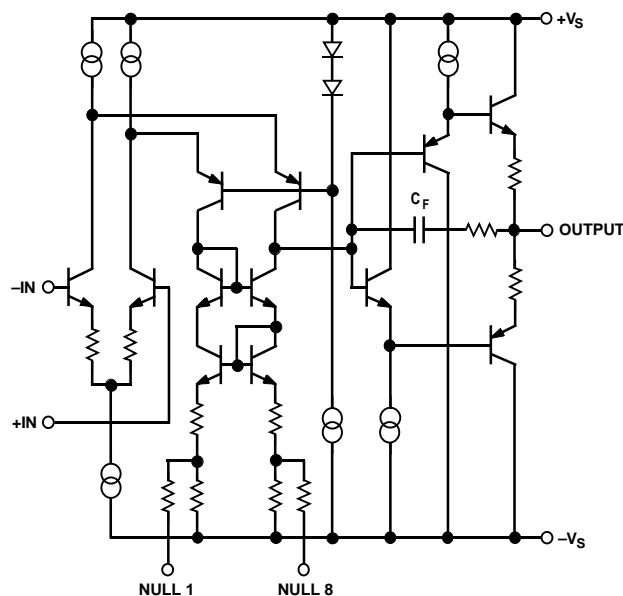

Figure 22. AD847 Simplified Schematic
The AD847 is fabricated on Analog Devices' proprietary complementary bipolar (CB) process which enables the construction of pnp and npn transistors with similar f_T s in the 600 MHz to 800 MHz region. The AD847 circuit (Figure 22) includes an npn input stage followed by fast pnpns in the folded cascode intermediate gain stage. The CB pnpns are also used in the current amplifying output stage. The internal compensation capacitance that makes the AD847 unity gain stable is provided by the junction capacitances of transistors in the gain stage.